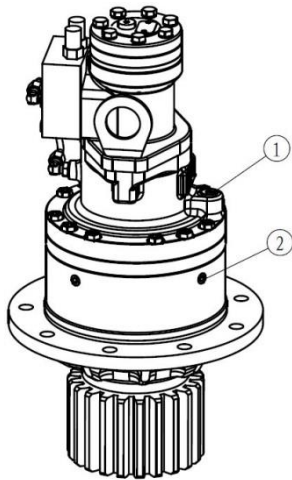

Figure 11-4 Swing Gearbox
- Remove the plug on the side and inspect the oil level, as shown in Figure 11-4.